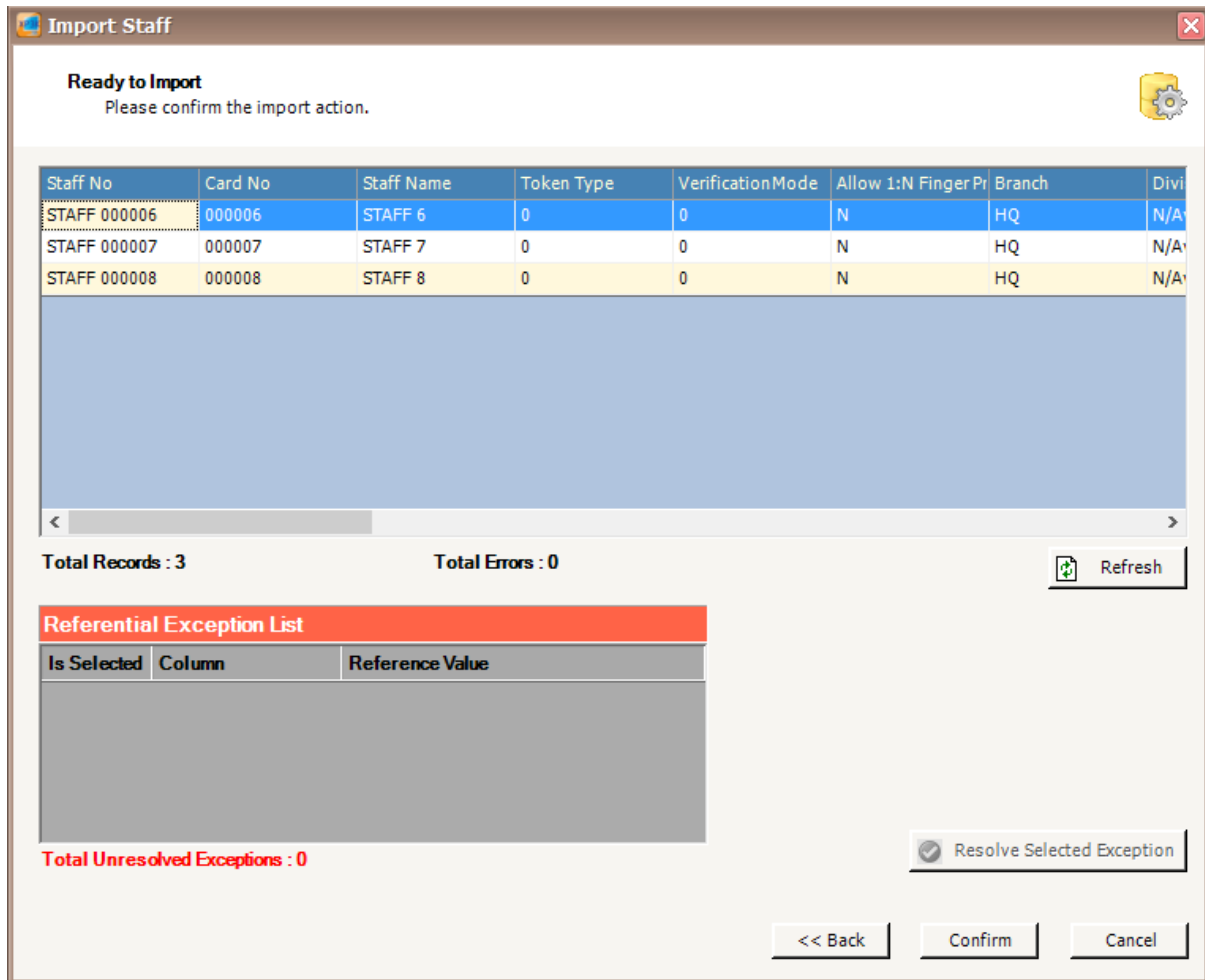

Figure 84 - Ready to Import Staff
14. The following screen will be shown (Refer **Figure 84**).